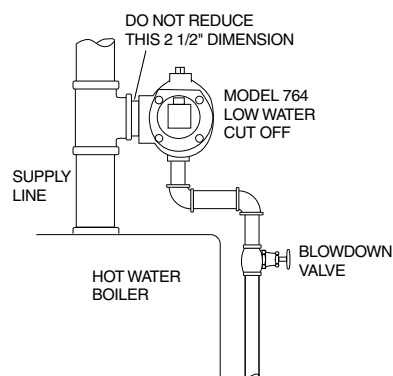

Figure 2
- a. See figure 2. If there are no 2 1/2" (65mm) tapings on a hot water boiler, the 764 control can be mounted on a 2 1/2" (65mm) tee on the riser going to the radiation or compression tank. **NOTE:** Do **not** reduce the 2 1/2" (65mm) tapping, as this would compromise low water protection.